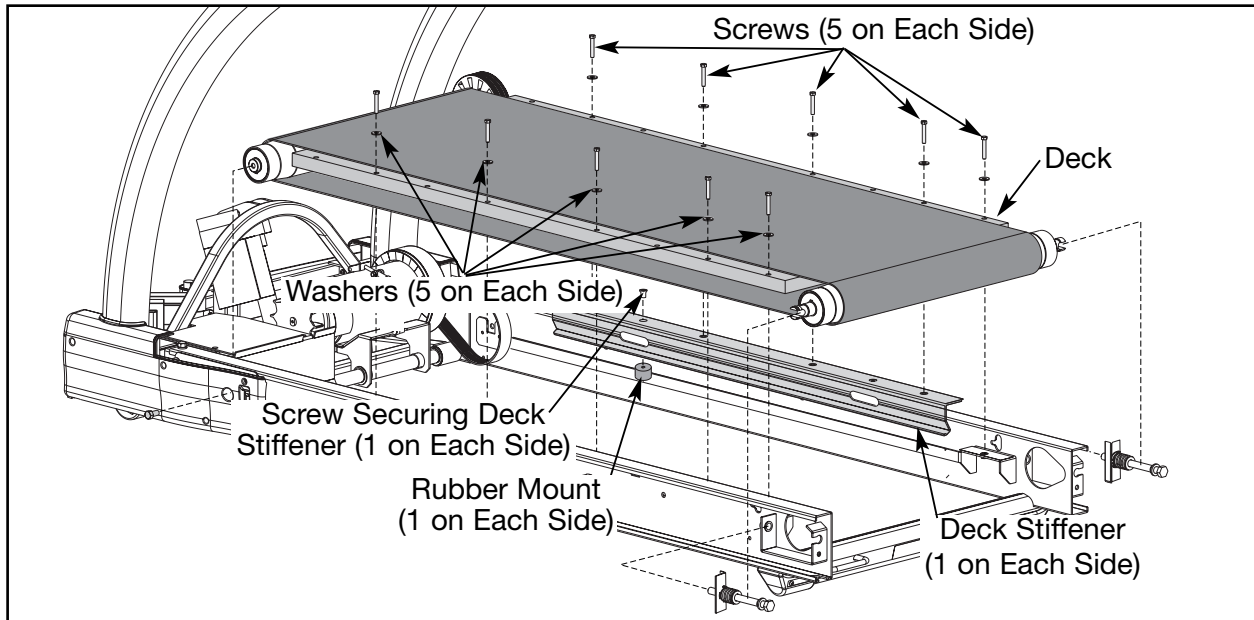

Figure 7
- A.** Using a 7/16" open-end or socket wrench, remove the ten screws and ten washers that hold the deck in place. See Figure 7. **NOTE:** Leave the deck in place until step 9B.
- A. Using a Phillips head screwdriver, remove the screw securing each deck stiffener. See Figure 7.
- B. Using a 7/16" open end or socket wrench, attach the ten washers and screws that hold the deck to the treadmill frame. See Figure 7.